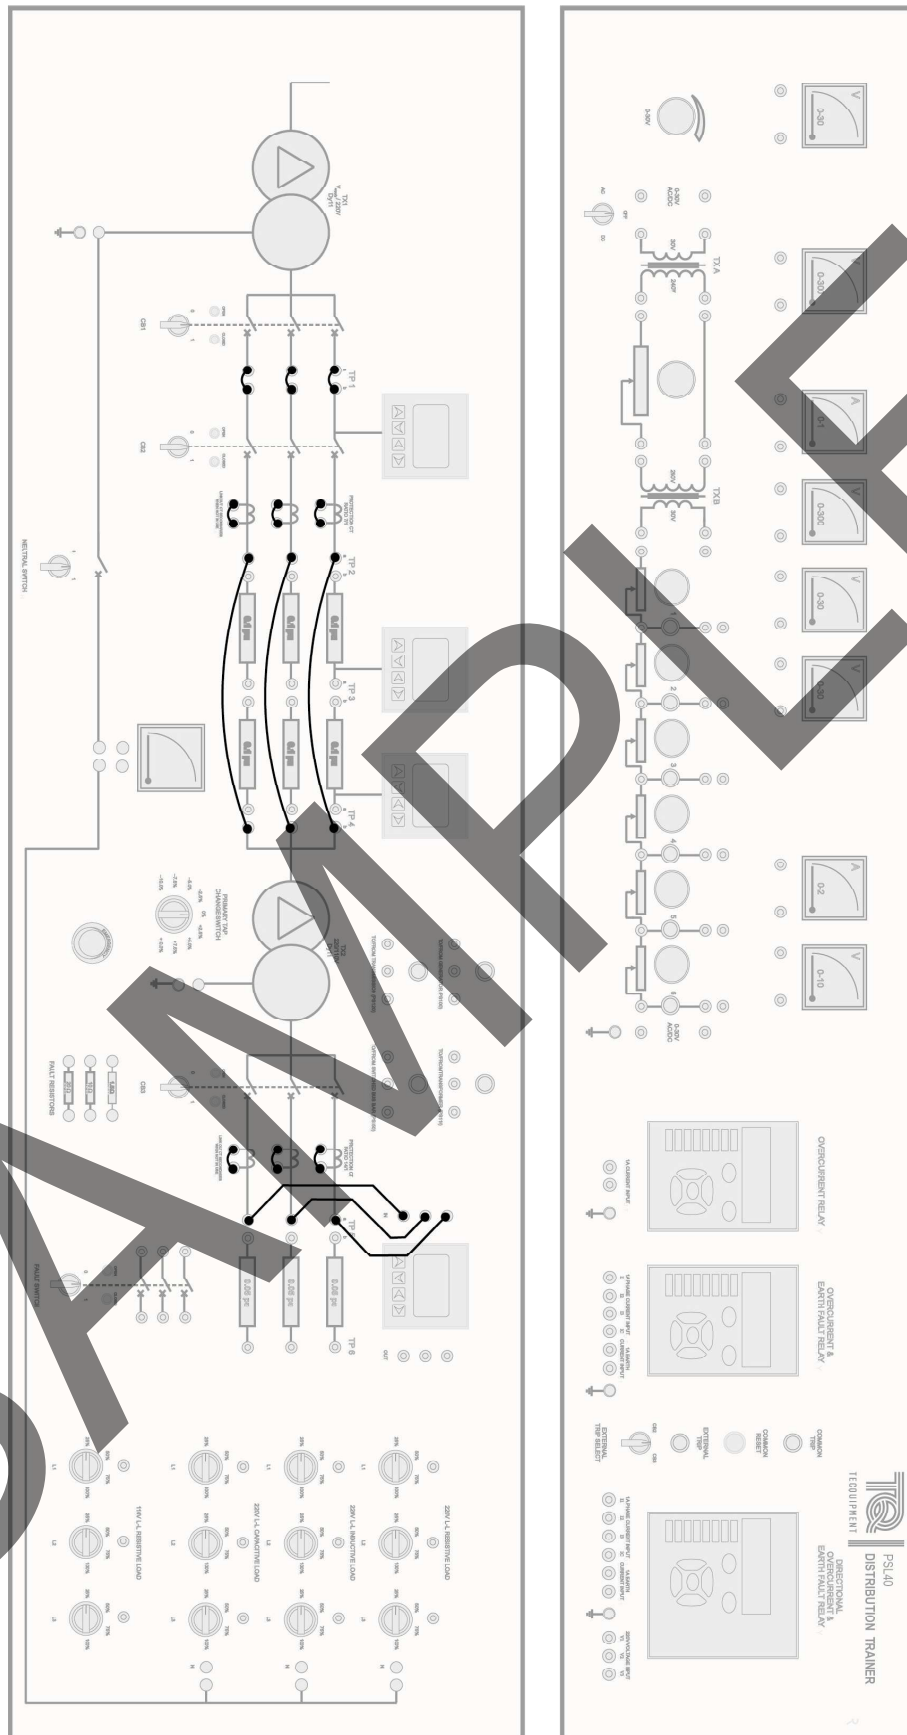

Figure 16 Connections for Experiment 1 - Procedure D
- 1) Connect the circuit as shown in Figure 16. Set the transformer tapping switch to 0%. Close CB1, CB2 and CB3. Measure the voltage between the lines (phase to phase) on the primary and secondary sides of Transformer 2.